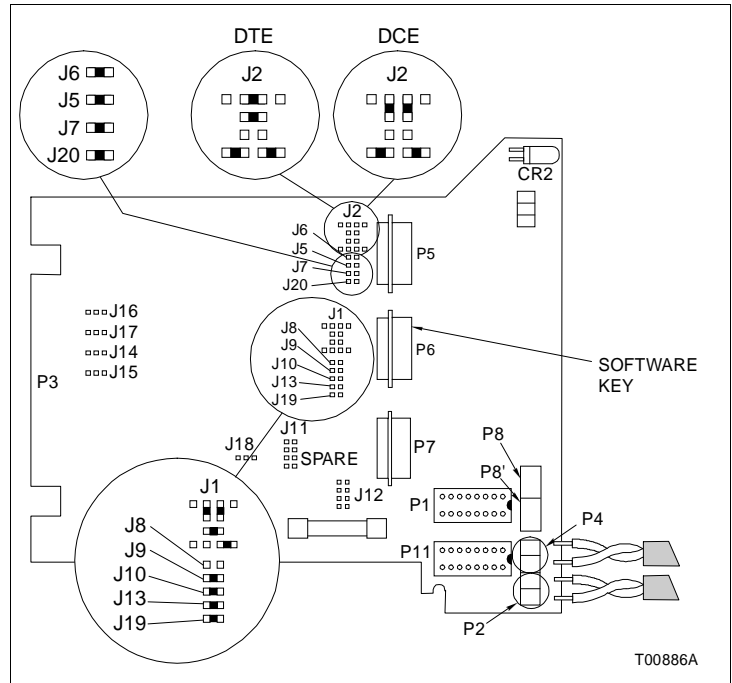

Figure N-2. NIMP01 Connector Assignments and Jumper Settings
1. For the software key, set jumpers J1, J8, J9, J10, J13 and J20 on the NIMP01 termination module as shown in Figure N-2.
3. Connect the 9 pin end of the 9-to-25 pin adaptor to the port labeled P6 (printer port) on the NIMP01 termination module. Refer to Figure N-2 for the location of the port.
4. For the computer port, set jumpers J6, J5, J7, and J20 as shown in Figure N-2.
5. Determine the requirements of the application and set up the termination unit as DTE or DCE equipment by setting J2 accordingly. Refer to Figure N-2 for J2 jumper settings.